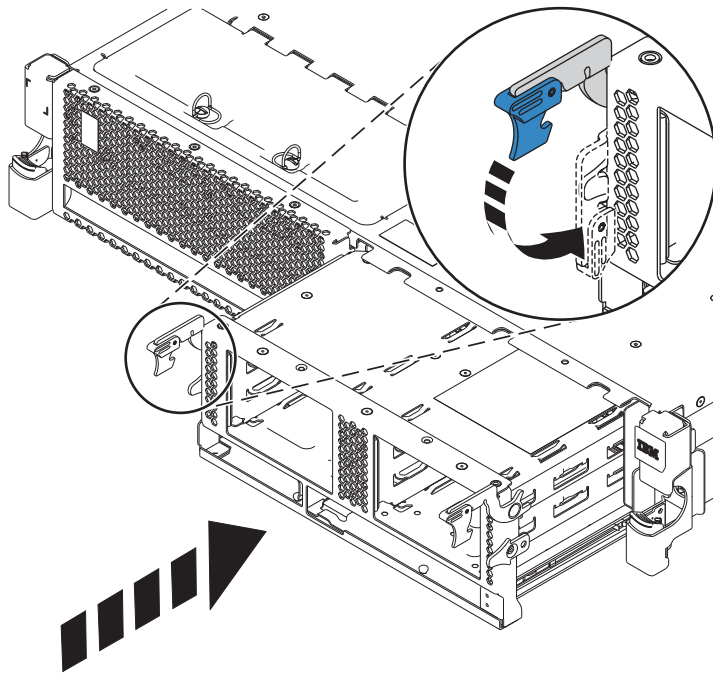

Figure 21. Replacing the disk drive cage
- a. With the disk drive latches extended, push the disk drive cage into the system. See Figure 21.